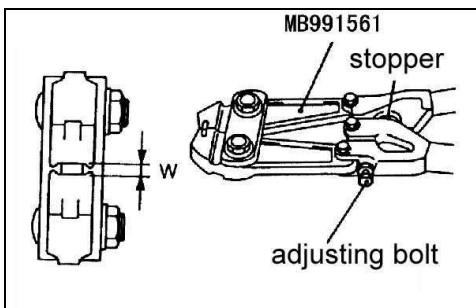

Fig.12-34
⑤ Turn the adjusting bolt on the special tool so that the size of the opening (W) is at the standard value. (see Fig.12-34)